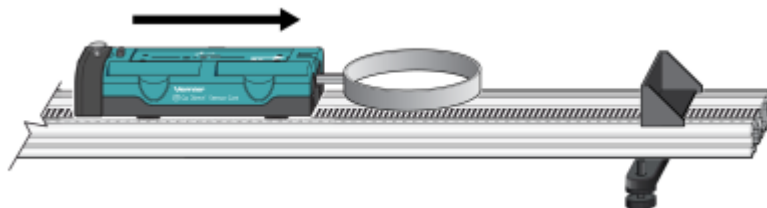

Figure 1
2. Attach the End Stop to the end of the track as shown in Figure 1.